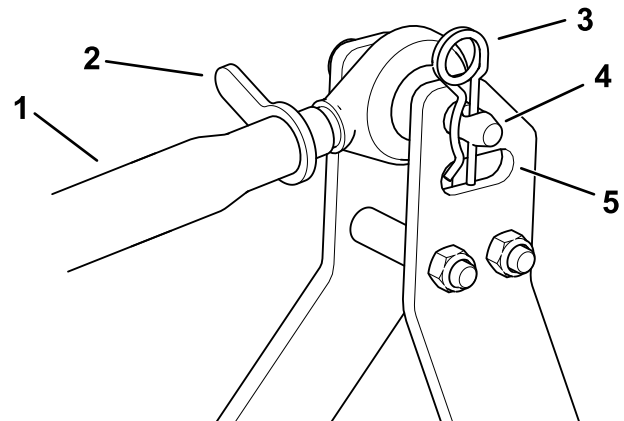

Figure 8
1. Connect the upper link arm to the bracket and secure it with the link pin and the hairpin cotter (Figure 8).